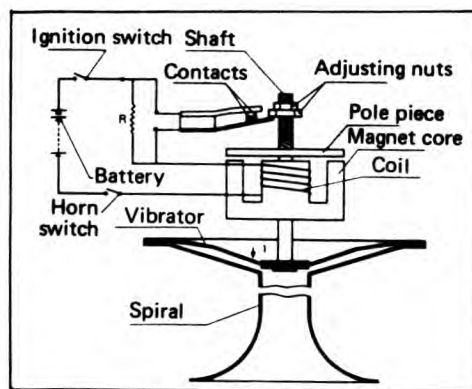

Fig. 12-37 Horn operation circuit
The existence of noise can be recognized when the range of a wave of condensation and rarefaction in the air is produced. The electrical horn (hereafter referred to as horn) operates a vibrator by an electrical force in order to produce this wave in the air. When this action is explained, it is as shown in Fig. 12-37. If the horn button is pushed, the magnet attracts the iron plate pole piece due to the current flowing in the coil and the circuit is made. In this case, due to the vibrator which is connected to the pole piece through the shaft, being suddenly pushed down in the direction of the arrow (1) the density of the air in front of the vibrator is compressed and becomes dense. When the pole piece is attracted in the direction of the magnet the current that was flowing, due to the opening of the contact is disrupted. Therefore, the pole piece tries to return to its original position by means of vibratory element repulsion. Then, the dense air in front of the vibrator becomes rough. When the pole piece and adjusting nut return to the starting position the current begins to flow in the coil and attracts the pole piece due to the closing of the contact that was open until now.
Main parts consists of a contact which intermittently regulates the flow of current, magnetic circuit, vibrating plate, and the spiral tube, shown in Fig. 12-37. The contact has a high switching frequency and due to the coil load and necessity for arc prevention and wear prevention high quality material and pure tungsten are used. As shown in Fig. 12-37, R represents an arc sup-